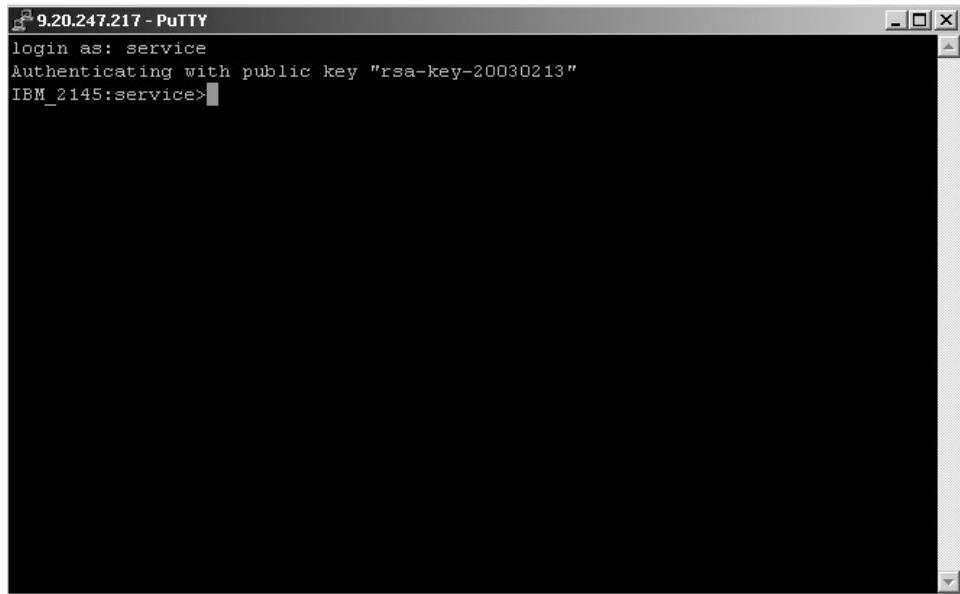

Figure 29. Command-line window for service
11. The command-line window for service is displayed. See Figure 29.